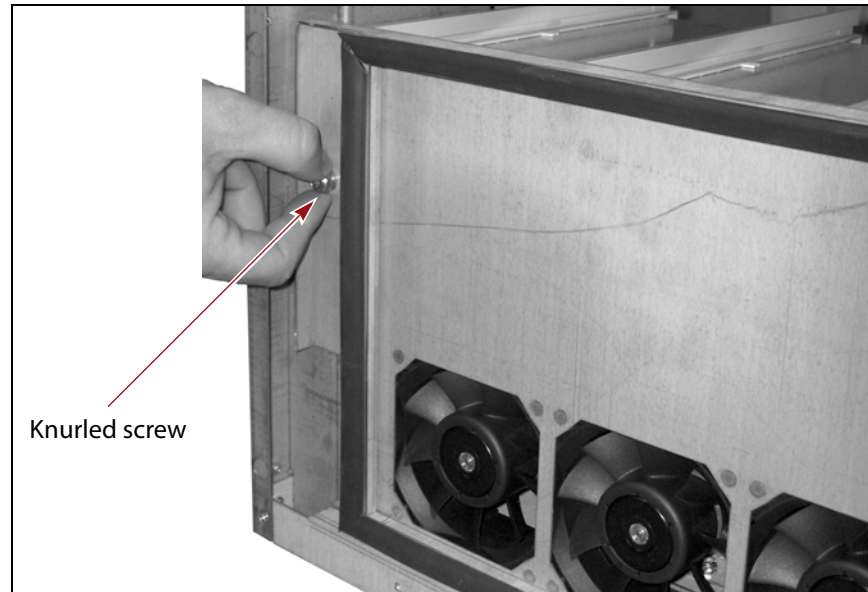

Figure 243 Removing the fan assembly.
- c. Finger-tighten the knurled nut (see Figure 243 on page 396) on the left side of the fan assembly to secure the assembly to the chassis.